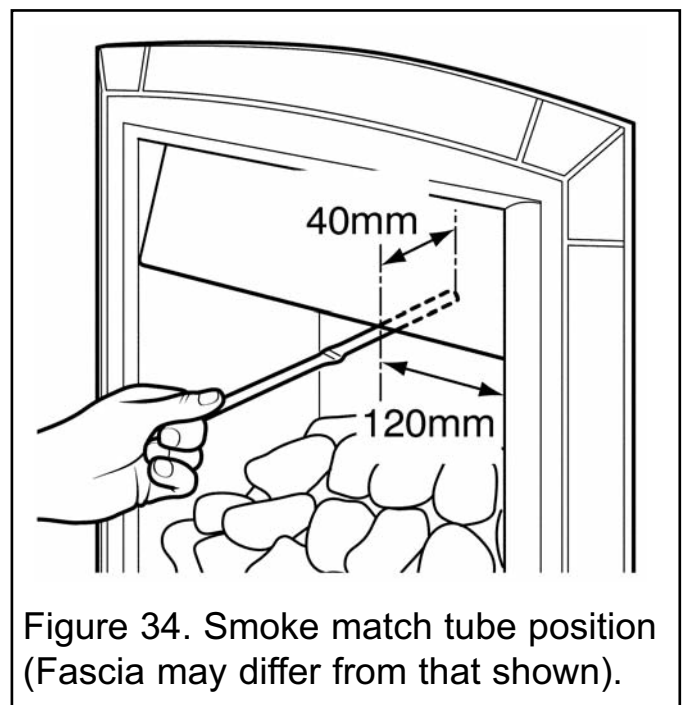

Figure 34. Smoke match tube position (Fascia may differ from that shown).
4. The smoke match should be placed horizontally into the hotbox at the right hand side (See figure 34).